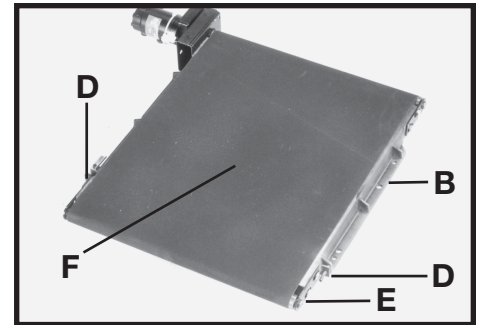
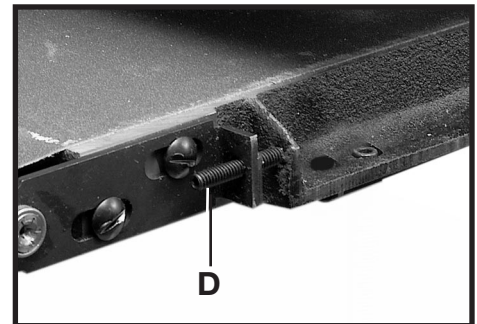
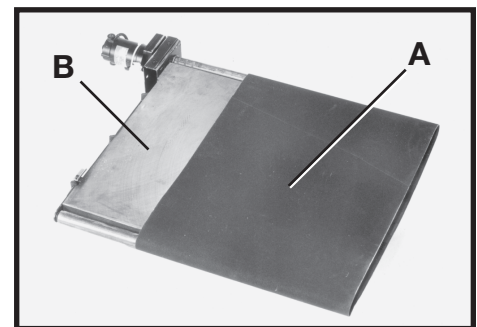

Fig. 33A
Fig. 33B
Fig. 34
4. Loosen the two socket head set screws (D) Fig. 33A and Fig. 33B equally at each side of the table until tension is relieved on roller (E).
5. Slide the feed belt (A) Fig. 34, off table (B). Place the new feed belt on the table and re-apply slight tension to the feed belt roller (E) Fig. 33A, by turning two screws (D). Tighten both screws an equal amount until at least one side of the belt starts to get tight. **NOTE:** The number of turns to tighten should be less than the number loosened in **step 4**.
6. Attach the table (F) Fig. 33A, to the support plate and adjust the tension and tracking on the feed belt. Refer to section **"CHECKING AND ADJUSTING TRACKING AND TENSION ON THE FEED BELT"** in this manual.